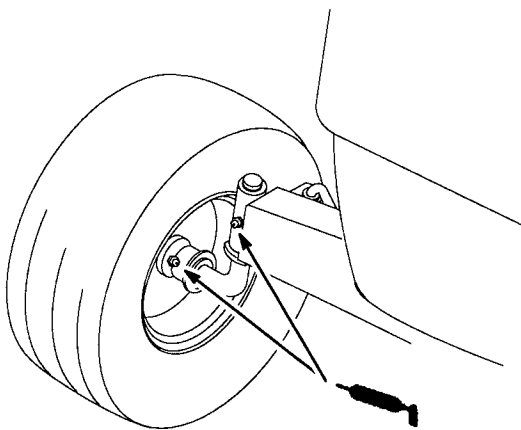

Figure 13
1. Lubricate the front wheels and steering spindles until grease begins to ooze out the bearings (Fig. 13).